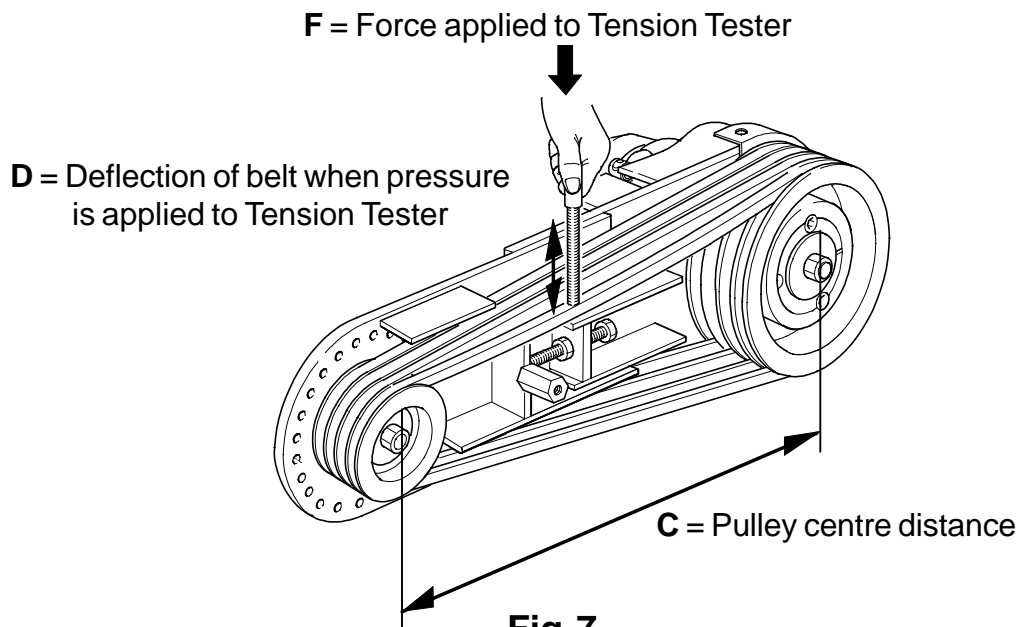

Fig 7
Using the M16 tensioning bolt (5), apply tension to the wedge-belts and using a belt tension indicator (Drum Part No. 648.20.00.000-2), apply the correct tension (**as shown in table fig 7**) at the mid-point of distance ("**C**") with force ("**F**") applied perpendicularly to the belt, which at the correct tension (**shown in Table fig 7**) should displace the belt by distance ("**D**")